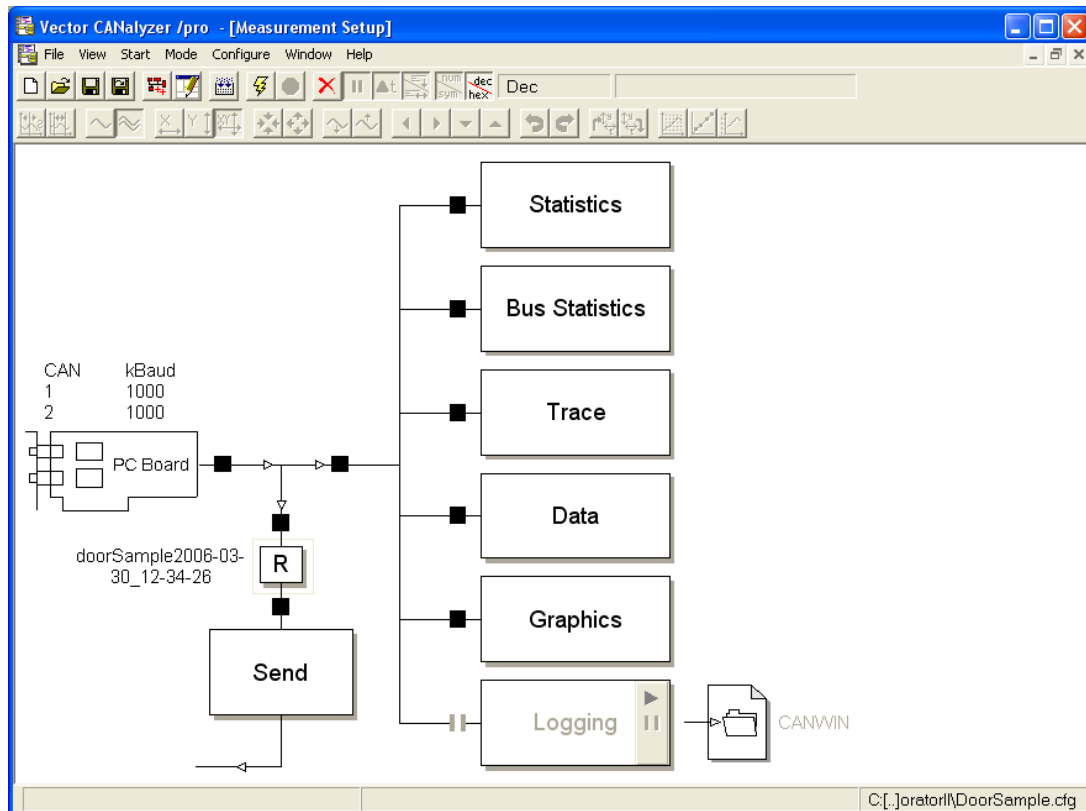

Figure 29. Measurement setup.
- Click at **Window | Measurement Setup** to open the measurement setup window. See Figure 29.